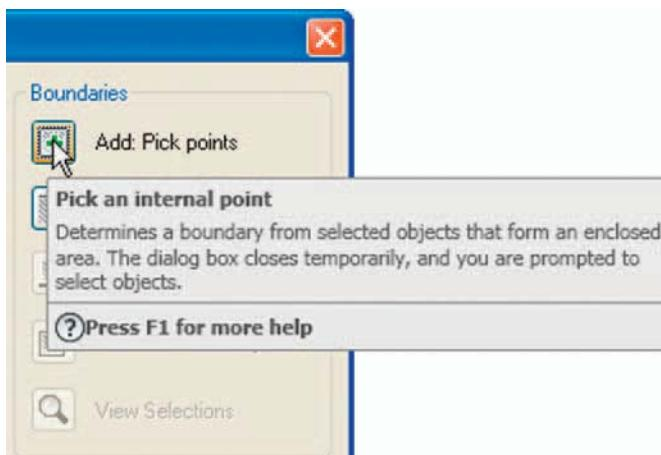

Fig. 7.13 The Pick an internal point button of the Boundary Hatch and Fill dialog
3. In the dialog left-click the Pick an internal point button (Fig. 7.13). The dialog disappears.